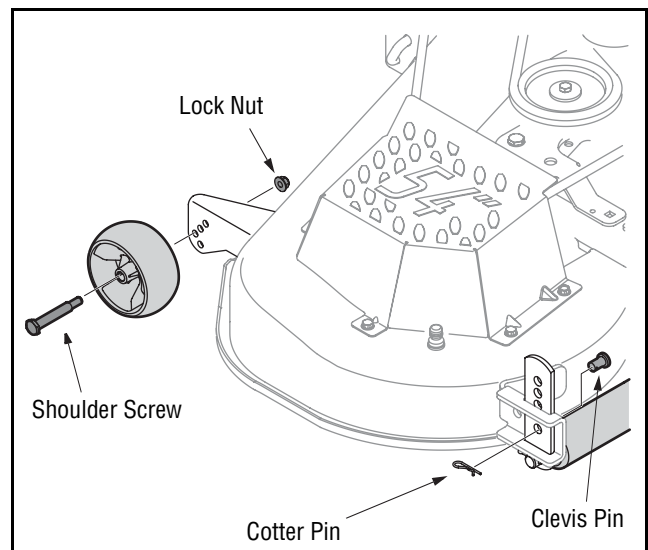

Figure 16
Place the tractor on a firm and level surface, preferably pavement. Refer to Figure 16, and proceed as follows:
- Remove the clevis pins and hairpin clips from the deck roller brackets on the left and right sides of the cutting deck. See Figure 16.